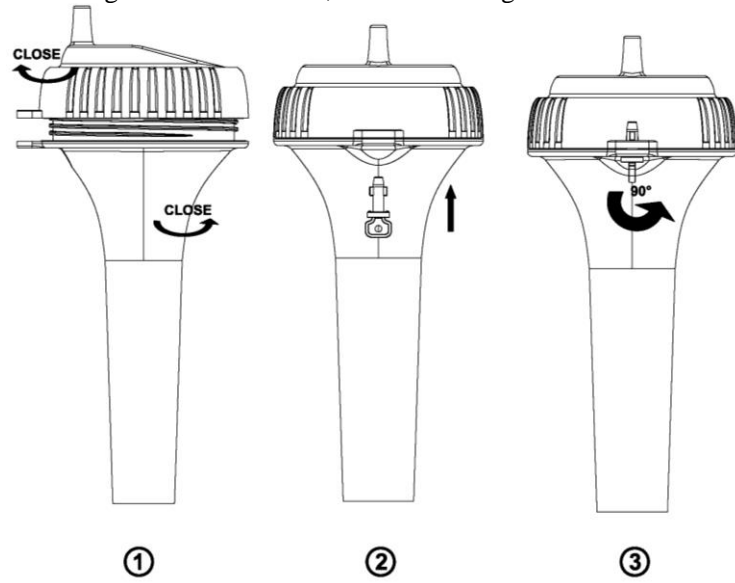

Figure 7
6. To close the lid, (1) Twist the lid until it is firmly locked and the key is aligned. (2) Insert the key and turn 90 degrees to lock the lid, as shown in Figure 7.